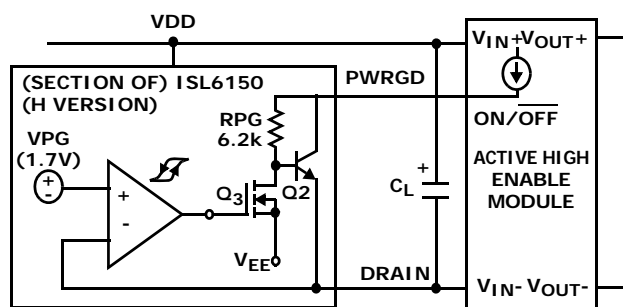

FIGURE 9. ACTIVE HIGH ENABLE MODULE
**ISL6150** (H version; Figure 9): Under normal conditions ( $DRAIN < VPG$ ), the  $Q_3$  DMOS will be on, shorting the bottom of the internal resistor to  $V_{EE}$ , and turning  $Q_2$  off. If the pull-up current from the external module is high enough, the voltage drop across the  $6.2k\Omega$  resistor will look like a logic high (relative to  $DRAIN$ ). Note that the module is only referenced to  $DRAIN$ , not  $V_{EE}$  (but under normal conditions, the FET is on, and the  $DRAIN$  and  $V_{EE}$  are almost the same voltage).
The Enable input often has a pull-up resistor or current source, or equivalent built in; care must be taken in the ISL6150 (H version) output that the given current will create a high enough input voltage (remember that current through the RPG 6.2k $\Omega$  resistor generates the high voltage level; (see Figure 9).